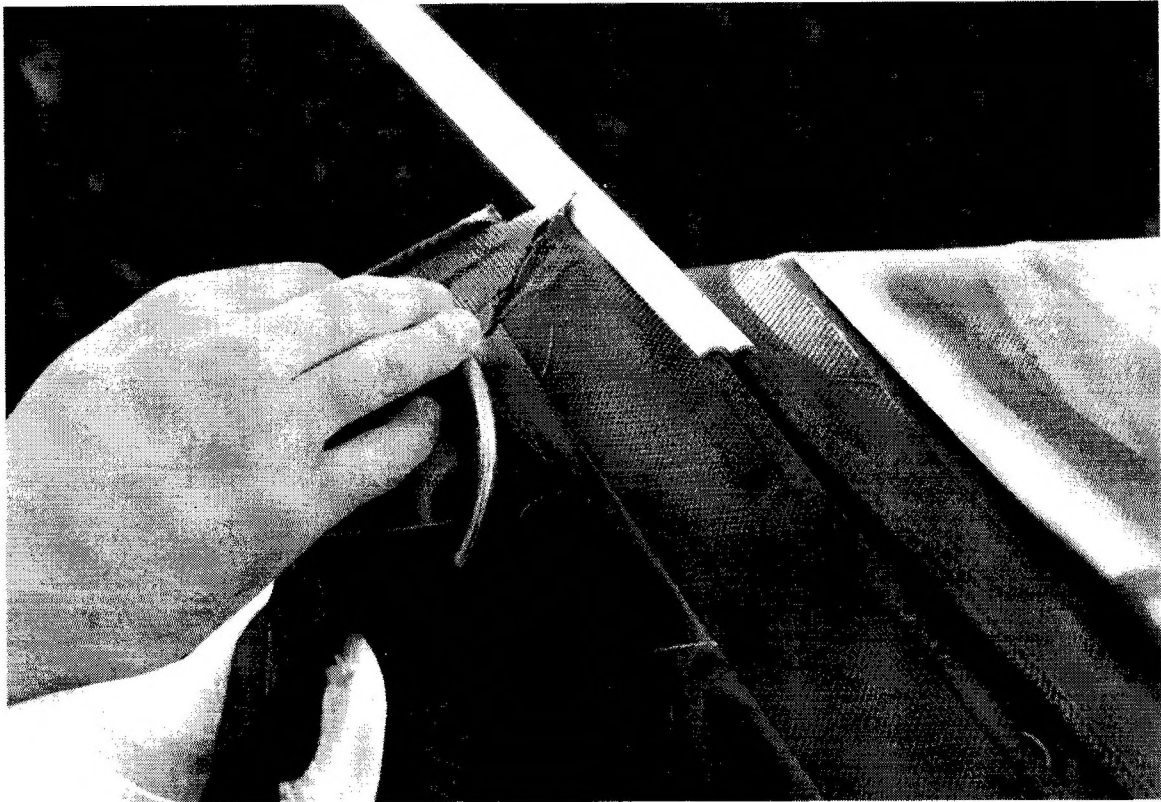

Figure 24: Adjusting flap positions at joints
32. Inserting the keder rail is a two (2) person operation, insert the rail from above (see Fig 24 below) whilst a second person holds the keder beads together, this allows the rail to slide freely. Keder rails are fitted to each side of the roof (J11/8340-99-477-5695) (Qty 4 in each roof section, total 8 in the roof), one after the other and pushed into place so that they are just short of the eave and apex positions Fig 25.